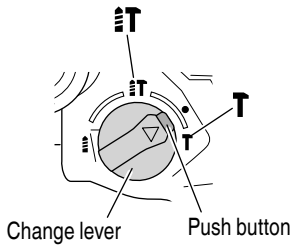
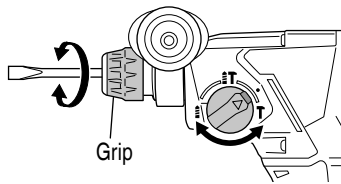

Fig. 24
Fig. 25
- (1) Mount the bull point or cold chisel.
- (2) Press the push button and set the change lever to middle of  $\frac{1}{2}$  **T** mark and **T** mark (Fig. 24). The rotation is released, turn the grip and adjust the cold chisel to desired position (Fig. 25).